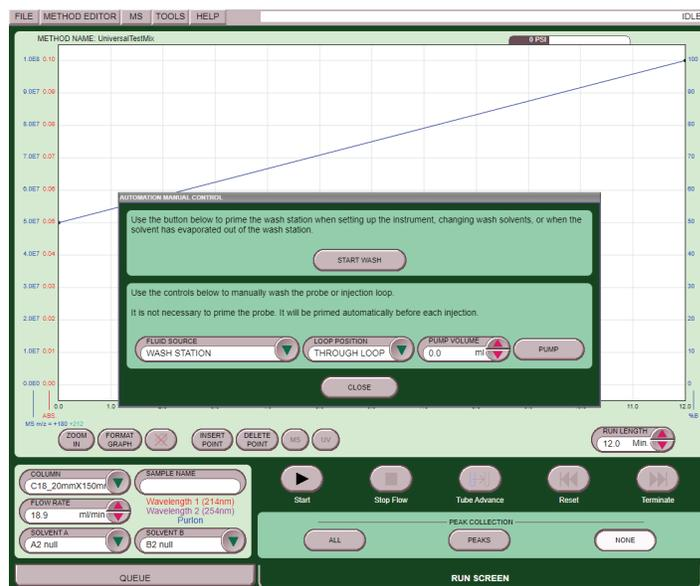

Figure 2: Automation Manual Control
2. Go to TOOLS > AUTOMATION MANUAL CONTROL and select the START WASH button (Figure 2).